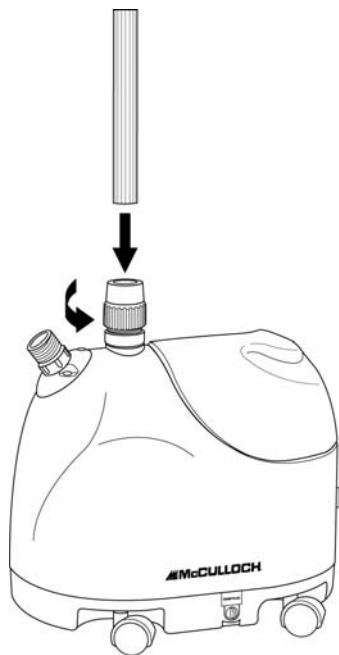

FIGURE 4
2. Insert bottom section of Telescopic Pole into Pole Base (FIGURE 4).